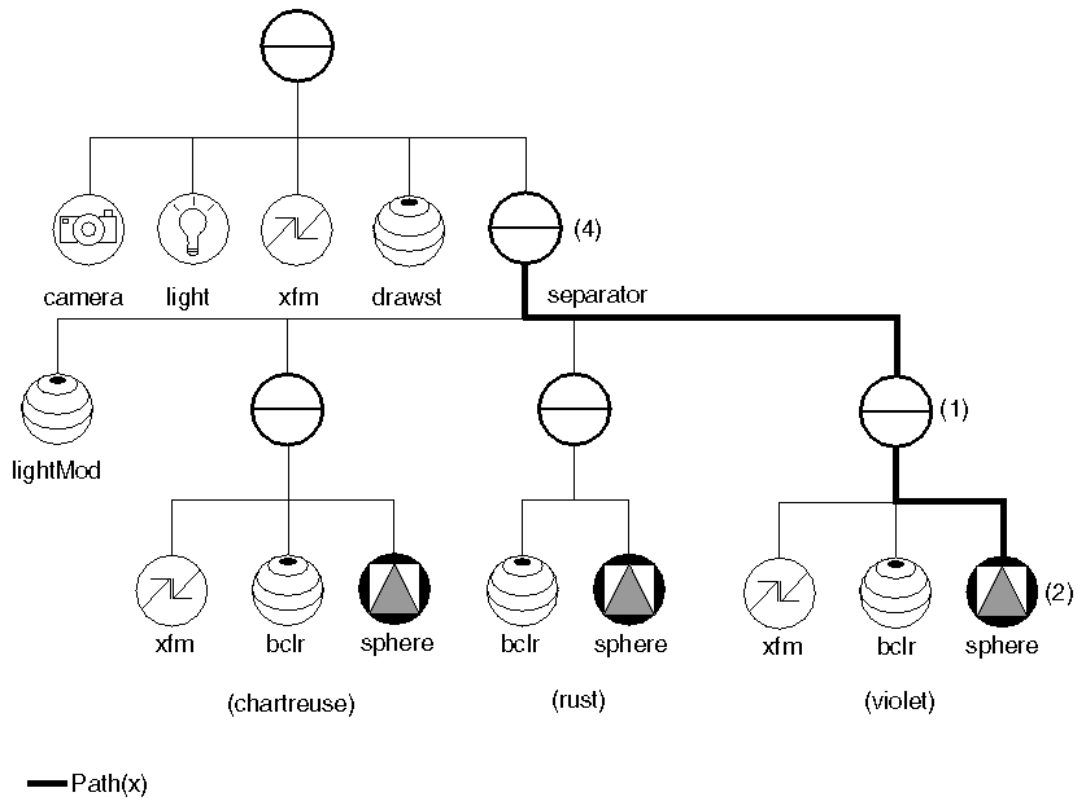

Figure 11.3 Pick Path for Violet Sphere
If you pick the third sphere (the violet one), the pick path could be written to a file as shown in Example 11.1. First, the subgraph under the root node is written. This description is followed by the number of indices in the path (3), and the indices themselves (4, 1, 2), as shown in Figure 11.3.